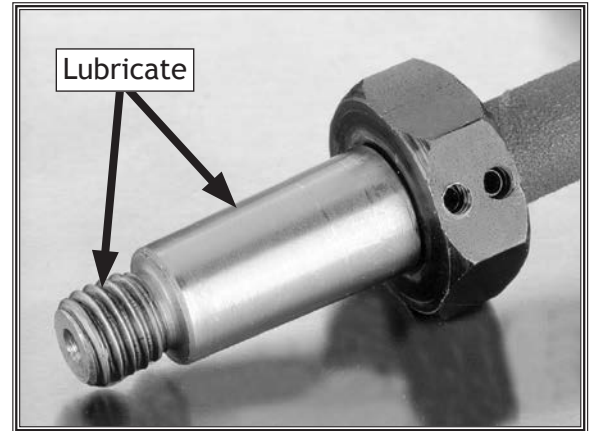

Figure 21. Spindle lubrication points.
3. Lubricate threads and shaft shown in **Figure 21** with a light oil.